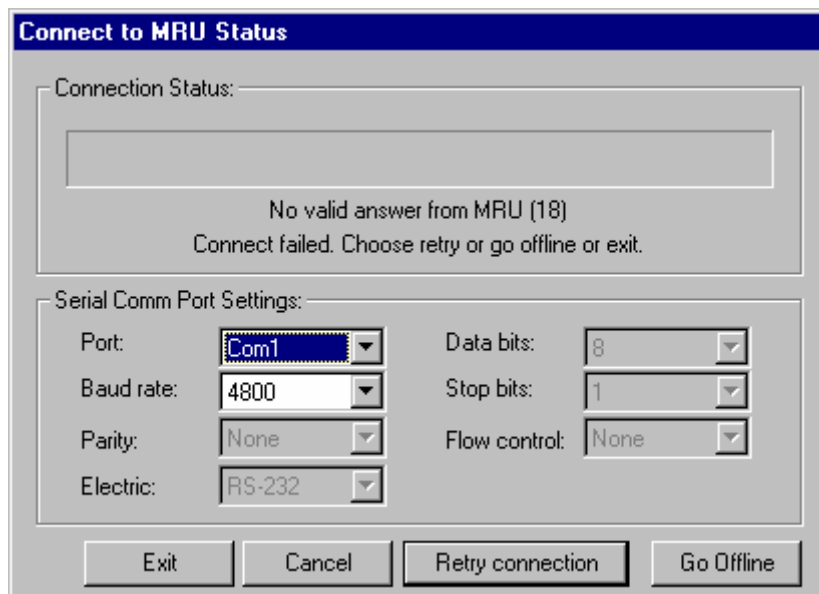

Figure 19 Connecting an MRU with old software version
If the MRU operates on too old software (version 2.53 or earlier), the message "No valid answer from MRU (18)" will appear in the connection status field as shown in Figure 19.